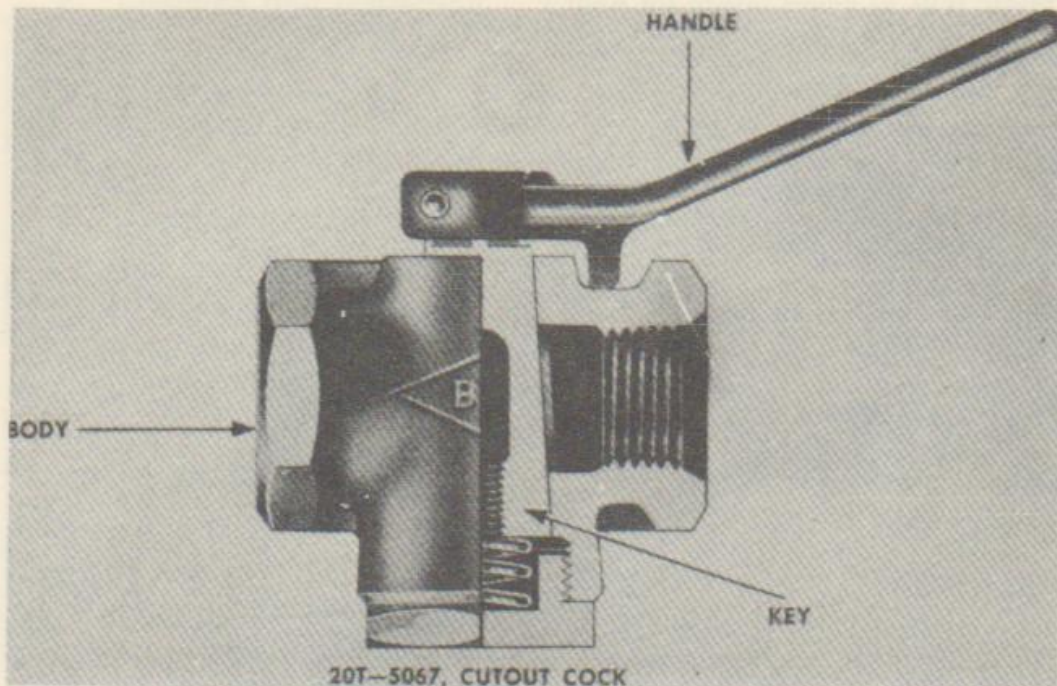

FIGURE 37. CUT-OUT COCK —EXPLODED VIEW
c. Disassembly (fig. 37). Drive out rivet pin attaching the handle to the key and lift off handle. Remove cap nut covering the lower end of the key and lift out spring. Remove key.